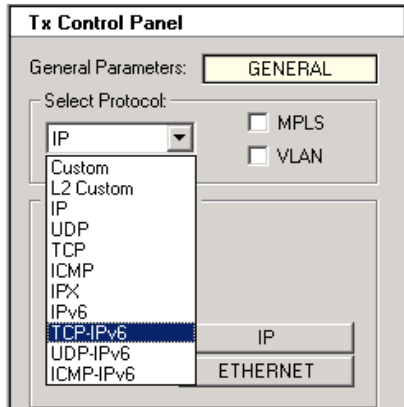

Figure 7-18. Stream Protocol
- 1 In the *Tx Control Panel* dialog box, use the **Select Protocol** pull-down menu to see all available protocols. (See Figure 7-18 on page 263.)